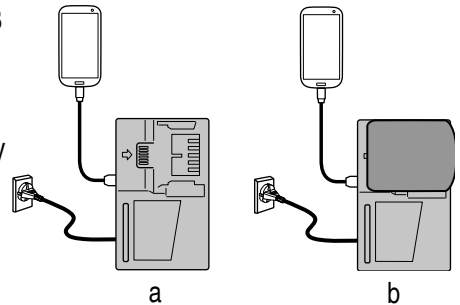

Fig. 23
- Charging a USB device from a electrical outlet. (Fig. 23-a)
- Charging a USB device and battery from a electrical outlet. (Fig. 23-b)